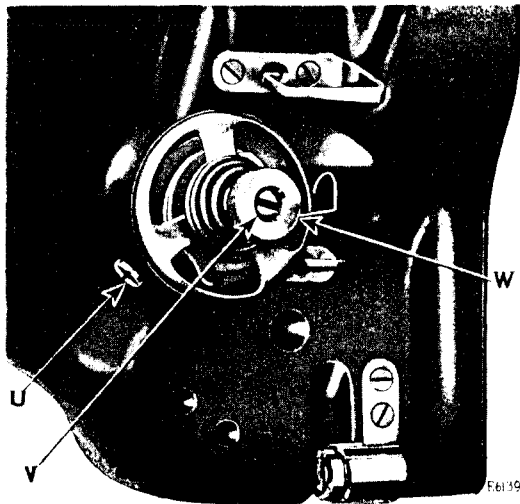

Fig. 17
The tension on the needle thread is regulated by the thumb nut (W, Fig. 17) at the front of the tension discs on the front of the machine. To increase the tension, turn this thumb nut over to the right. To decrease the tension, turn this thumb nut over to the left.
To vary the tension of the controller spring, loosen the set screw (U, Fig. 17), at the left of the controller, which holds the thread controller stud (V, Fig. 17), then, using a screwdriver, turn the stud (V) to the right or left, as required, and when the desired tension of the controller spring is obtained, securely tighten the set screw (U). In any case, when an unusually light tension is used, the tension on the controller spring should be correspondingly light. The coils of the controller spring should be oiled occasionally.
Loosen the set screw (U, Fig. 17) which holds the thread controller stud, and remove the thread controller from the arm, remove the tension adjusting nut (W, Fig. 17) and tension spring, withdraw the stud and replace the controller spring, taking care to slide the small tail on the coil of the spring into the notch in the stud over which the coil slides, putting the tension discs and outside rim of tension washer in between the coil and loop of the controller spring, replace the tension spring and adjusting nut on the stud and place in position on machine, then securely tighten the set screw (U).